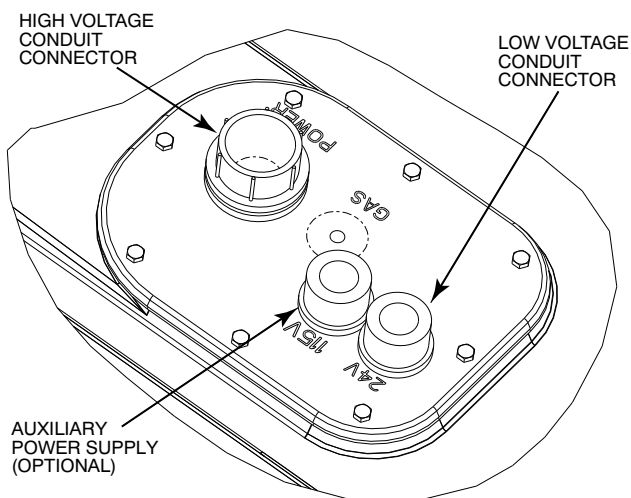

Fig. 30 — Thru-Base Connection Fittings
The 3/4-in. bulkhead connector enables the low-voltage control wires to pass through the basepan. The 1/2-in. bulkhead connector allows the high-voltage power wires to pass through the basepan. See Fig. 30.
3. Place the gasket over the embossed area in the basepan, aligning the holes in the gasket to the holes in the basepan. See Fig. 30.